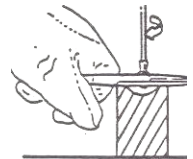

Fig. 3
1. If overly loose, tighten post screw to desired blade-to-blade tension (Fig 3).